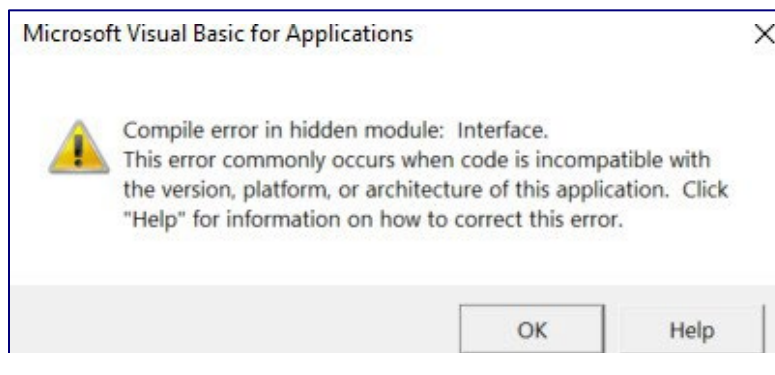

Figure 4. “Compile error in hidden module: Interface” error message
8. After I enter my data into “45ZCF-GREET 2025.xlsm” and click the “Generate LCA Results” button, Excel displays a pop-up that says, “Compile error in hidden module: Interface” (Figure 4). Why do I see this error message?